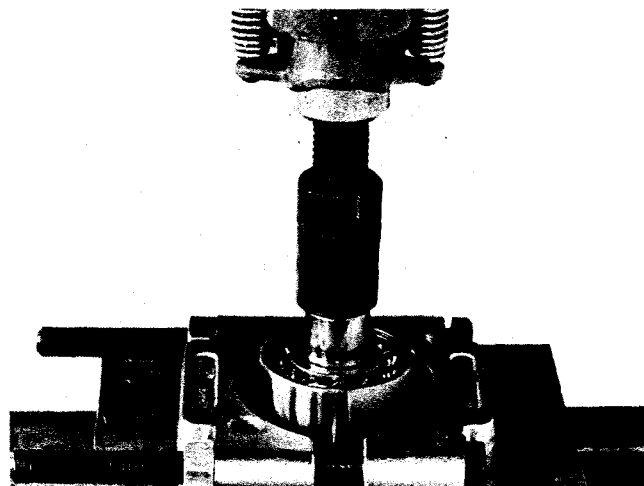

Fig. 8-15, (N10861). Pressing shaft from bearing
4. Remove large snap ring (4), securing large bearing (5) in water pump housing.
5. Remove impeller (11) from shaft (6) with 3375257 Puller.
6. Support water pump housing (8) at drive end; press shaft and bearing assembly (5, 6, 7) from housing by applying pressure to impeller end of shaft.
7. Remove cup seat (12), drive carbon face seal (13) and small oil seal (14) from housing and discard.
8. Using 3375326 Bearing Separator, supporting large bearing, press shaft through bearing (5). Fig. 8-15.
9. Supporting small bearing (7) with 3375326 Bearing Separator, press shaft (6) through bearing.